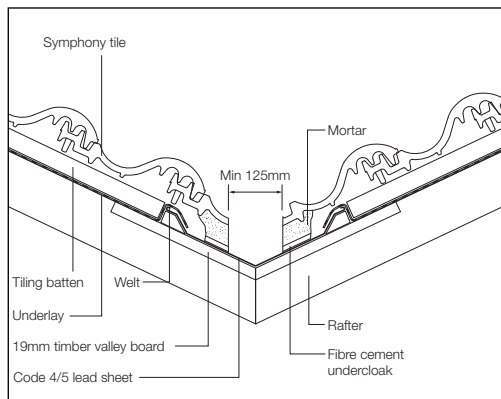

Fig 46 - Section through bedded, metal lined valley
- 3 For mortar bedded valleys, bed raking cut tiles at the edges of the valley using mortar, ensuring that tile interlocks are kept free and there is adequate space kept clear behind the mortar to avoid water capillarity (Fig 46).